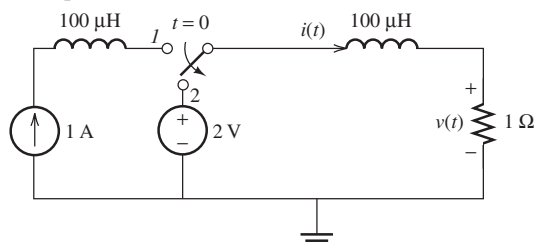

FIGURE P5.29 Circuit for Problem 5.29.
- 5.29 (A) Consider the circuit shown in Figure P5.29. The switch goes from 1 to 2 at $t = 0$ after connecting to 1 for a long time period. Find $i(0^+)$, $v(0^+)$, and $v(\infty)$.